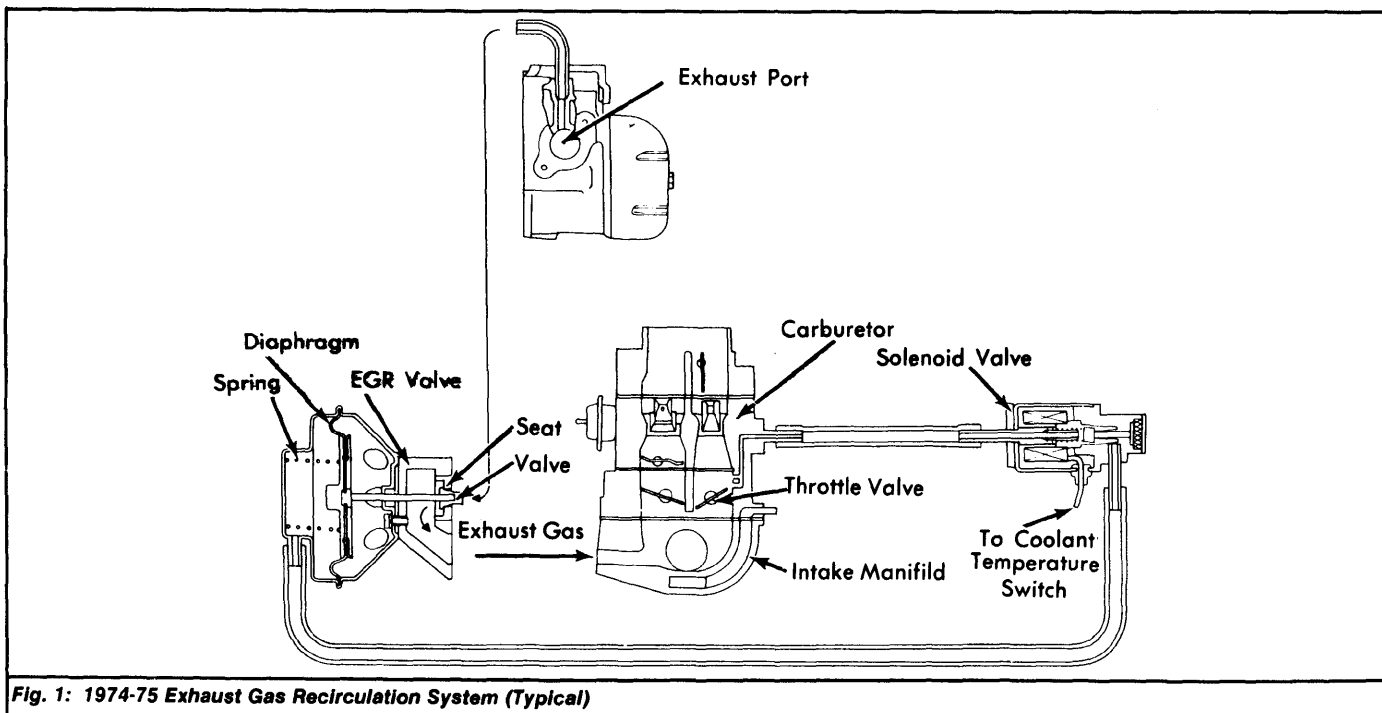

Fig. 1: 1974-75 Exhaust Gas Recirculation System (Typical)
3) If valve is sticking or binding, clean or replace as necessary. Check EGR pipe and gas passages from clogging and leaks. See Fig. 1. Clean or replace as necessary.